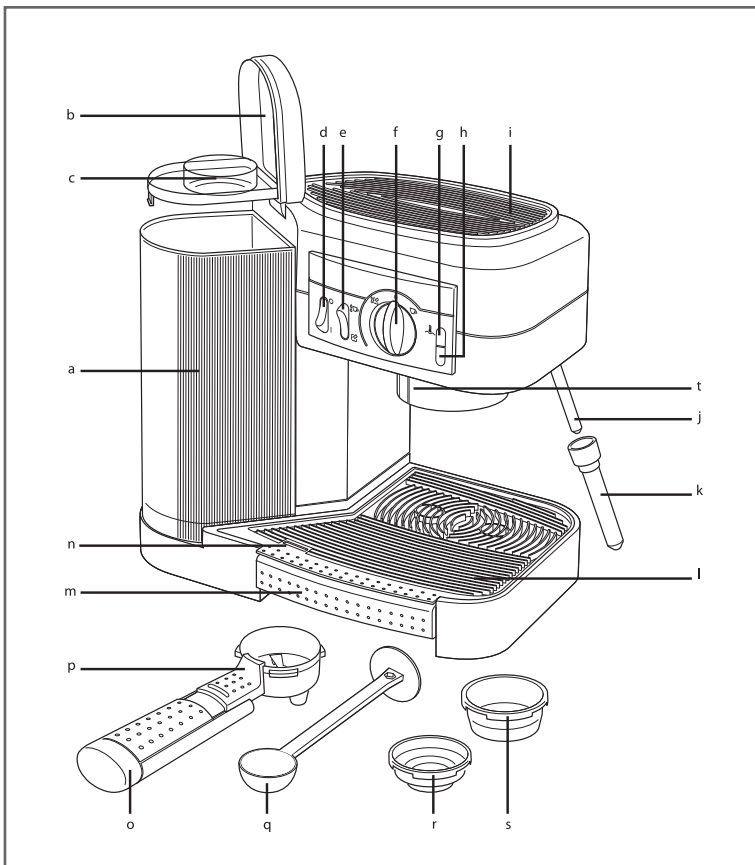

Fig 1, Capresso Café User Components
Rinse the internal components before making espresso. Fill the water container and pump a few ounces of water through the brew head (Fig.1, t) and the steam tube (Fig.1, j). Follow the procedures in chapters 4 and 5 without using coffee.
- c) The Function Switch selects Coffee (through the Brew Head, Fig. 1,t) or Hot Water or Steam (through the Steam Tube, Fig 1, j).
The machine comes with a small (one-cup) and large (two-cup, extra strong) sieve (Fig. 1, r, s). One of them is inserted in the Porta Filter (Fig. 1, o) the other one is stored in the storage compartment (Fig. 1, c).